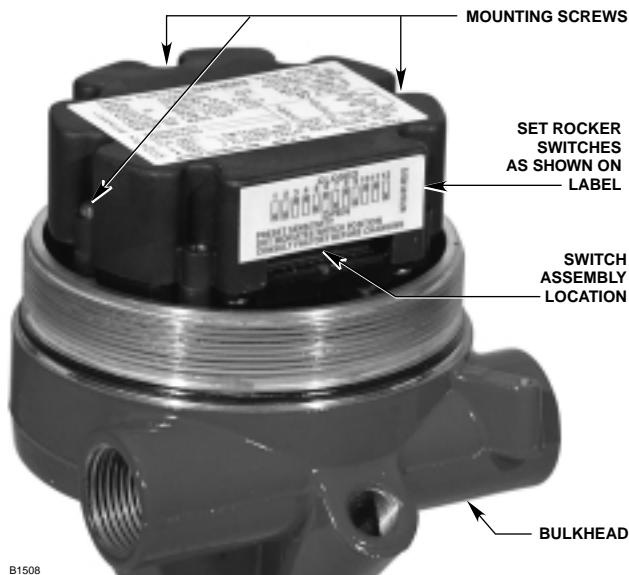

Figure 10—Electronic Module Mounted on Bulkhead
Remove the electronic module from its shipping package. Refer to the switch descriptions in this section for a functional description of each switch. The location of the programming switches is shown in Figure 10. Switches are “Open” when pressed in the direction of the word “OPEN” and “Closed” when pressed in the opposite direction.
2. Install the electronic module, ensuring that the connector is aligned correctly. Tighten the three captive screws that hold the electronic module in place. See Figure 10.